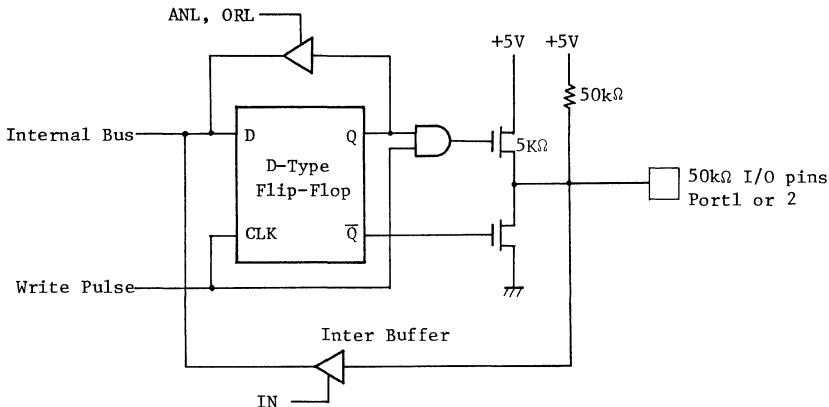

Fig.1 Input/Output Circuit of Port 1, Port 2
- All lines of Ports 1 and 2 are called quasi-bidirectional because of a special output circuit structure (illustrated in Figure 1). Each line is continuously pulled to a +5V level through a high impedance resistive device ( $50K\Omega$ ) which is sufficient to provide the source current for a TTL high level yet can be pulled low by a standard TTL gate thus allowing the same pin to be used for both input and output. In order to speed up the "0" to "1" transition a low impedance device ( $5K\Omega$ ) is switched in momentarily whenever a "1" is written to line. When a "0" is written to line a low impedance device overcomes the pullup and provides TTL current sinking capability.